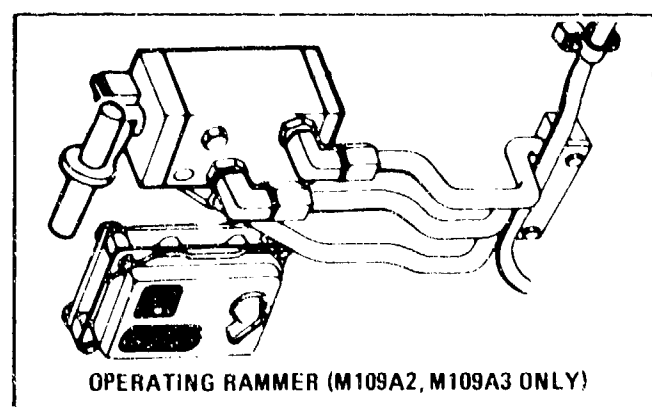

Figure 7-14. Operating rammer.
a. *Purpose.* The traversing mechanism (fig 7-14) controls the movement of the weapon in azimuth.
①—Lock indicator      ②—Main release handle